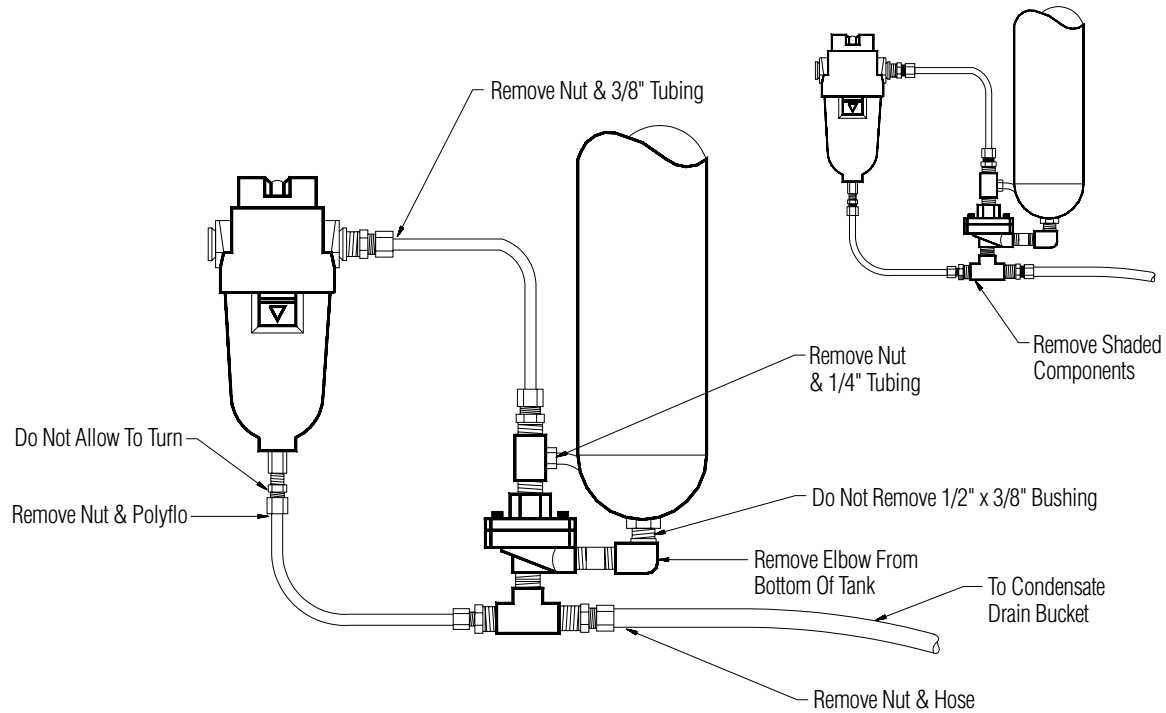

FIGURE 1
3. As illustrated in FIGURE 1 - remove the shaded components from the compressor.